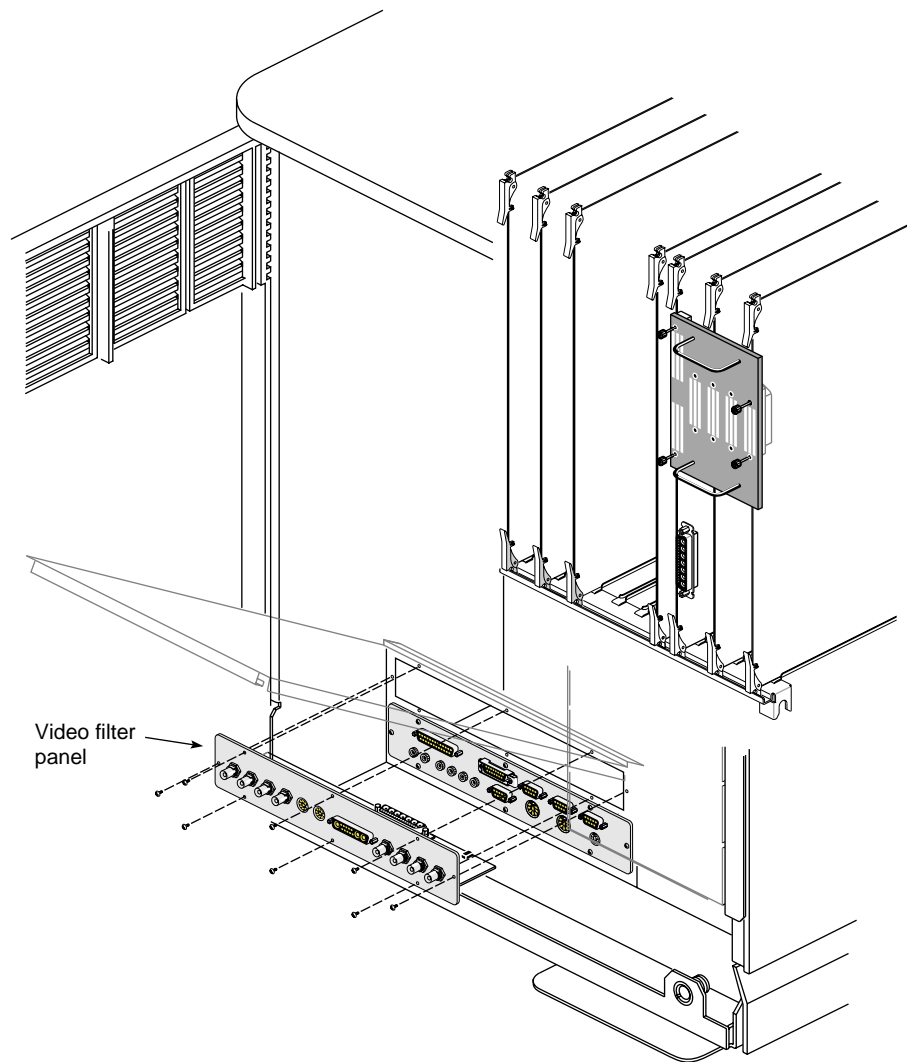

Figure 4-5 Installing the RealityEngine² Video I/O Panel
10. Remove the long, horizontal blank I/O panel from above the standard I/O panel and replace it with the RE² video I/O panel (see Figure 4-5).